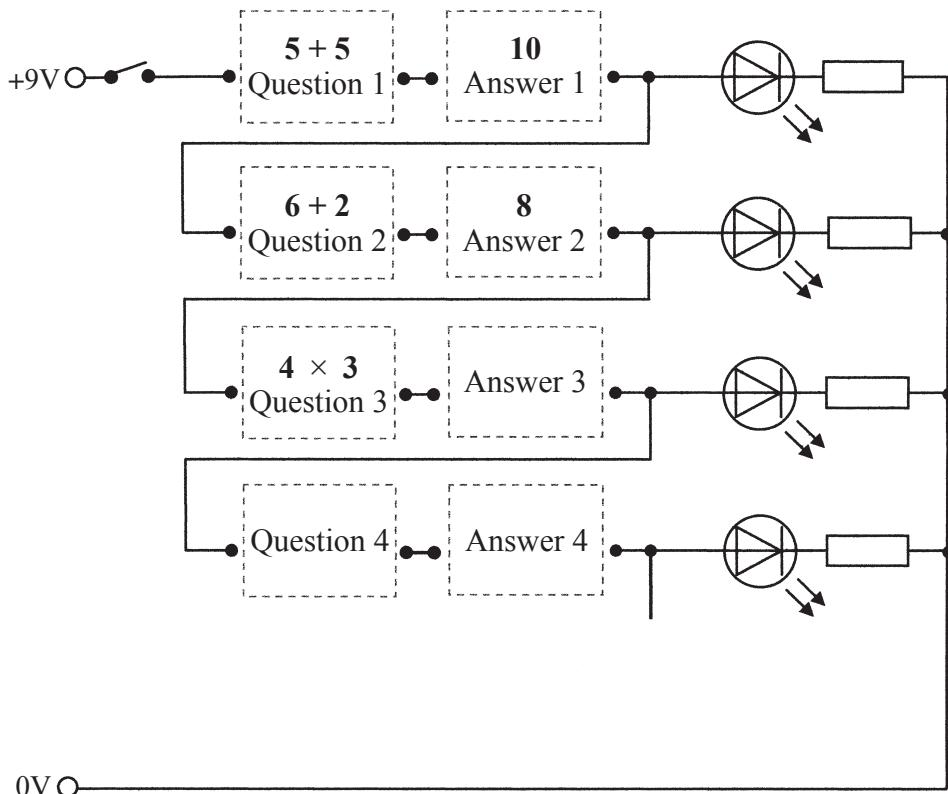

Figure 11
- (d) **Figure 11** shows the incomplete circuit for the toy.
- (i) Complete **Figure 11** by adding a buzzer that will sound when **all four** questions have been answered correctly. (2 marks)